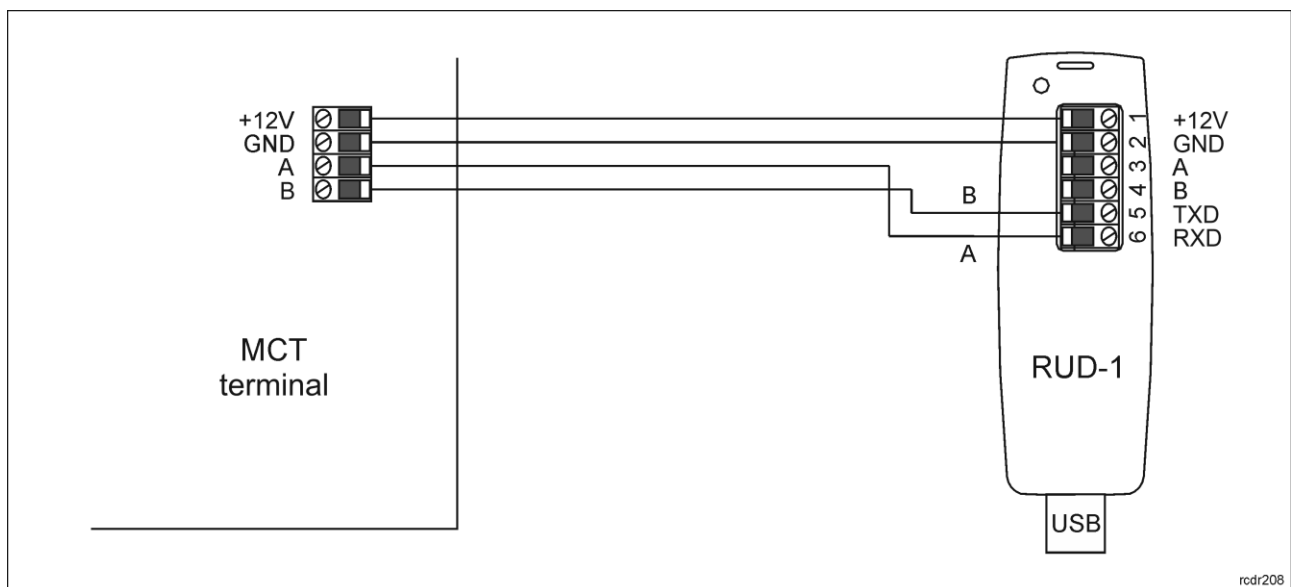

Fig. 8 Connection of MCT terminal to RUD-1 interface (firmware update)
1. Connect the device to RUD-1 interface (fig. 8) and connect the RUD-1 to computer's USB port.